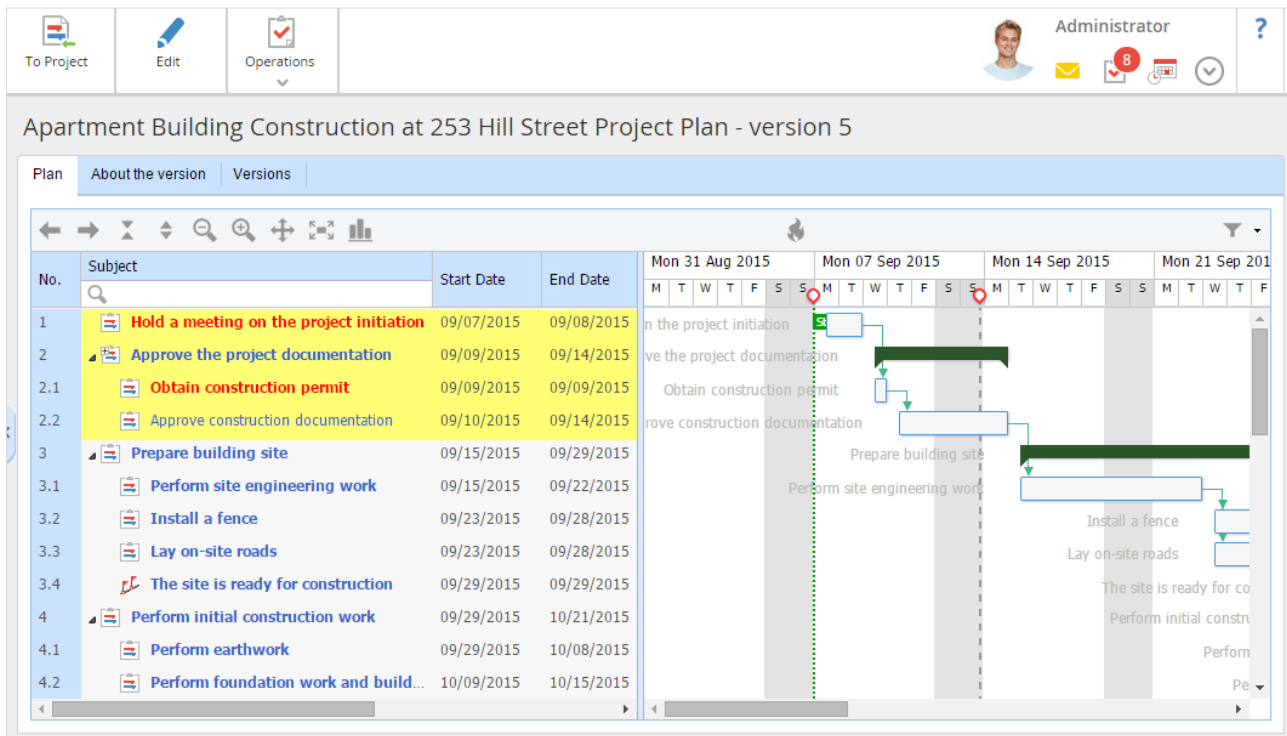

Fig. 33. Project plan markers
**ELMA** provides you with many task control tools. You can control task due dates on the project plan page (fig. 33):